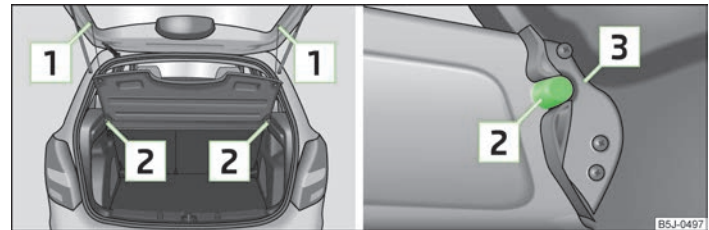

Fig. 47 Removing the boot cover
- Unhook the support straps  » Fig. 47.
- The mounts of the cover  » Fig. 47 must be positioned above the holders  of the side trim panel.
- The mounts of the cover [3] » Fig. 47 must be interlocked in the holders of the side trim panel [2].